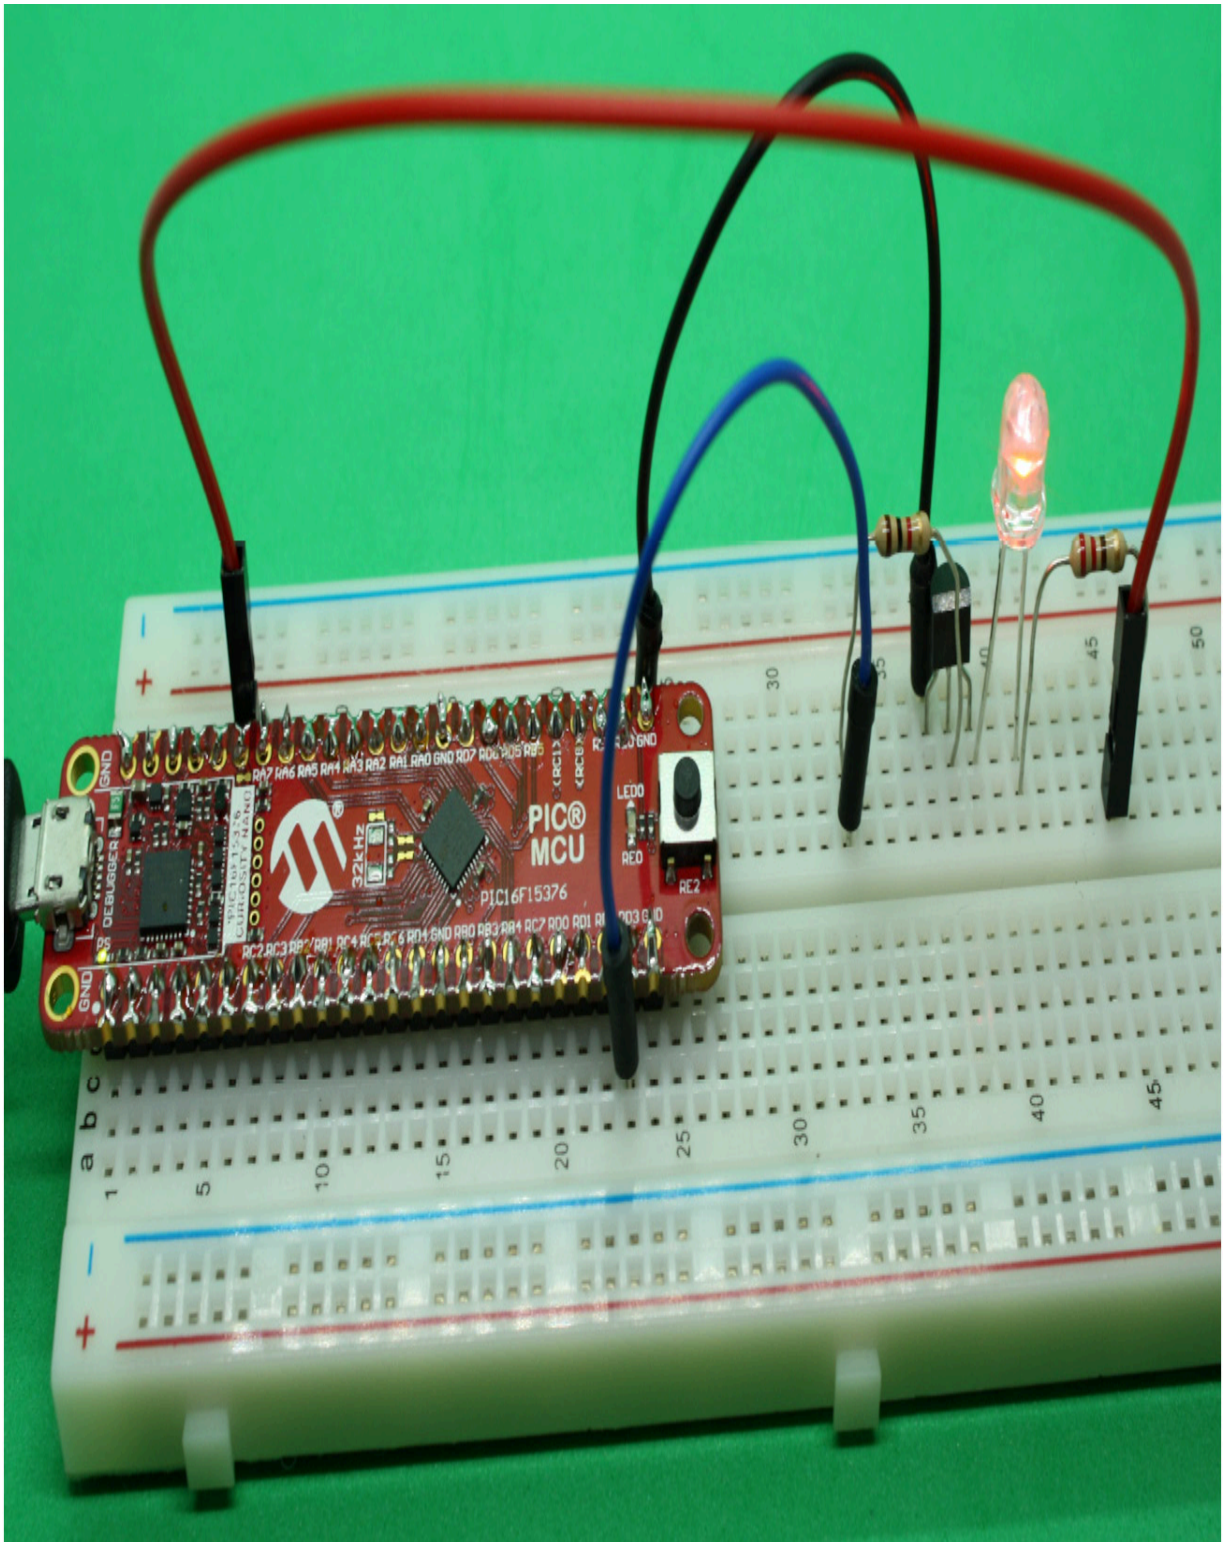

Figure 6.9 – The transistor and the LED connected to the Curiosity Nano
*Figure 6.9* shows how everything is connected:
As you can see from *Figure 6.9*, the 2N2222 transistor is switching the super-bright LED's ground.